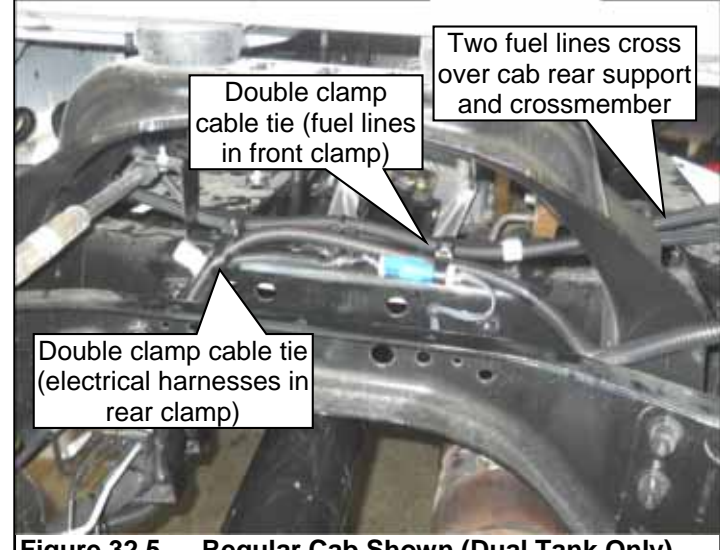

Figure 32.5 — Regular Cab Shown (Dual Tank Only)
4. **Dual Tank Only:** Two fuel lines are secured to the cab rear support crossmember (or other crossmember) using two double clamp cable ties. **Figure 32.5.** For more information, refer to page 19.